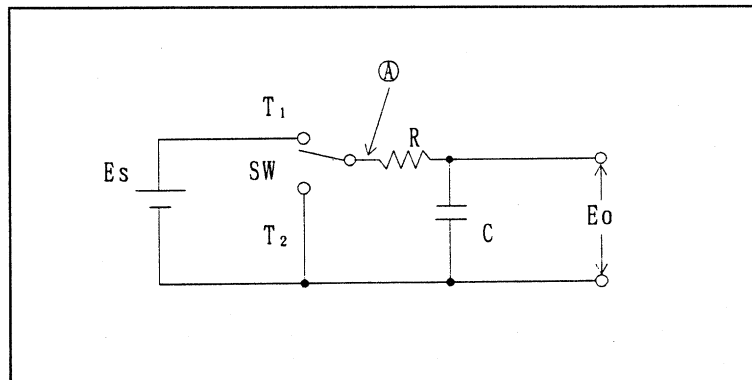
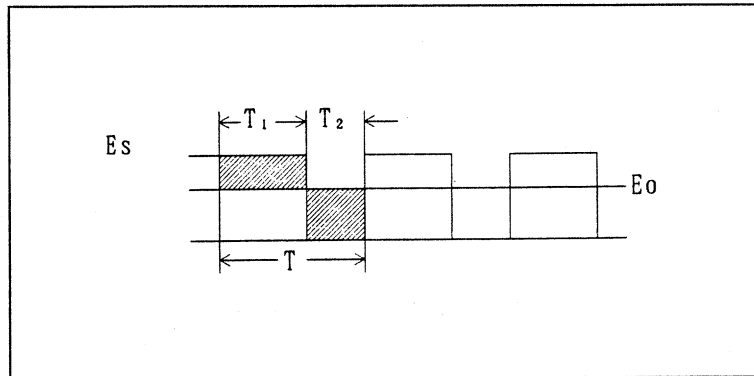

Figure 6-3 Voltage Dividing by Time Division
Figure 6-4 Voltage Waveforms at Point A
- (1) Display and key switch operations
- (2) Driving of pulse width control block to determine the output voltage
- (3) Driving of I/O block for function, range, and polarity setup
- (4) External I/O operations (GPIB and BCD remote control)
- (5) Storage of calibration data (into electrically writable ROM)
Figure 6-3 shows the time-division voltage divider system that the Generator uses. When the switch (SW) is turned on or off with times T_1 and T_2 in this figure, the voltage waveforms at point \textcircled{A} can appear as shown in Figure 6-4.